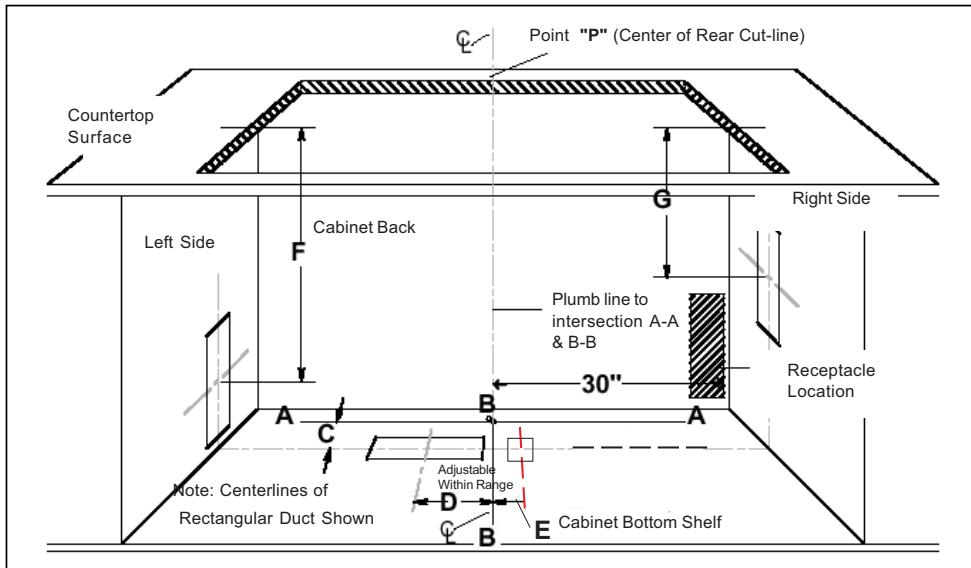

Fig. 9
- A. Refer to Figure 9. Drop a plumb-line from Point "P" at the rear center of the countertop cutout. Mark this point on the bottom of the cabinet below. Construct two reference lines through this point: one should be parallel to the cabinet front and directly below the rear countertop cutout (Line A-A), and the other (Line B-B) should be at right angles to A-A.
See Figure 9. The cord should be routed beneath the appliance and away from heat generated by the cooktop. Access should not be obstructed by blower, cabinet work, ductwork or electrical/gas utilities for the cooktop. All power for the vent system (including the remote blower, if used) is supplied via the cord to the intake unit. The outlet can usually be extended from another kitchen outlet or have its own circuit from the main service panel.